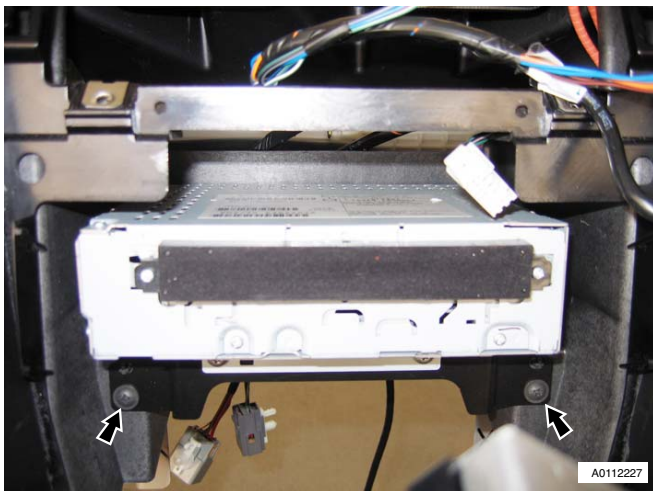

Figure 8
12. Remove CD unit (screws x2) (see Figure 8).